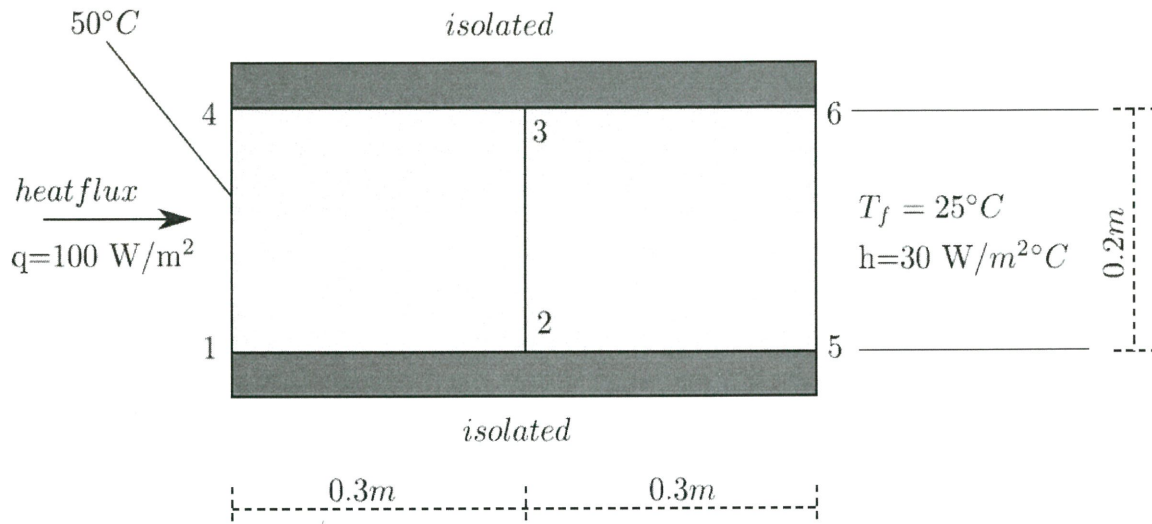

Figure Q1
- Q1** A two-dimensional plate is isolated in upper and lower edges, so no convection heat transfer is allowed. This plate has been modelled as 2 quadrilateral elements as illustrated in **Figure Q1**. The left edge is maintained at  $50^{\circ}\text{C}$  and heat flux,  $q = 100\text{W}/\text{m}^2$  is applied on this edge. The right edge is exposed to ambient temperature of  $25^{\circ}\text{C}$  with heat transfer convection coefficient,  $h = 30\text{W}/\text{m}^2$ . By following the node and element definitions as seen in **Figure Q1**,